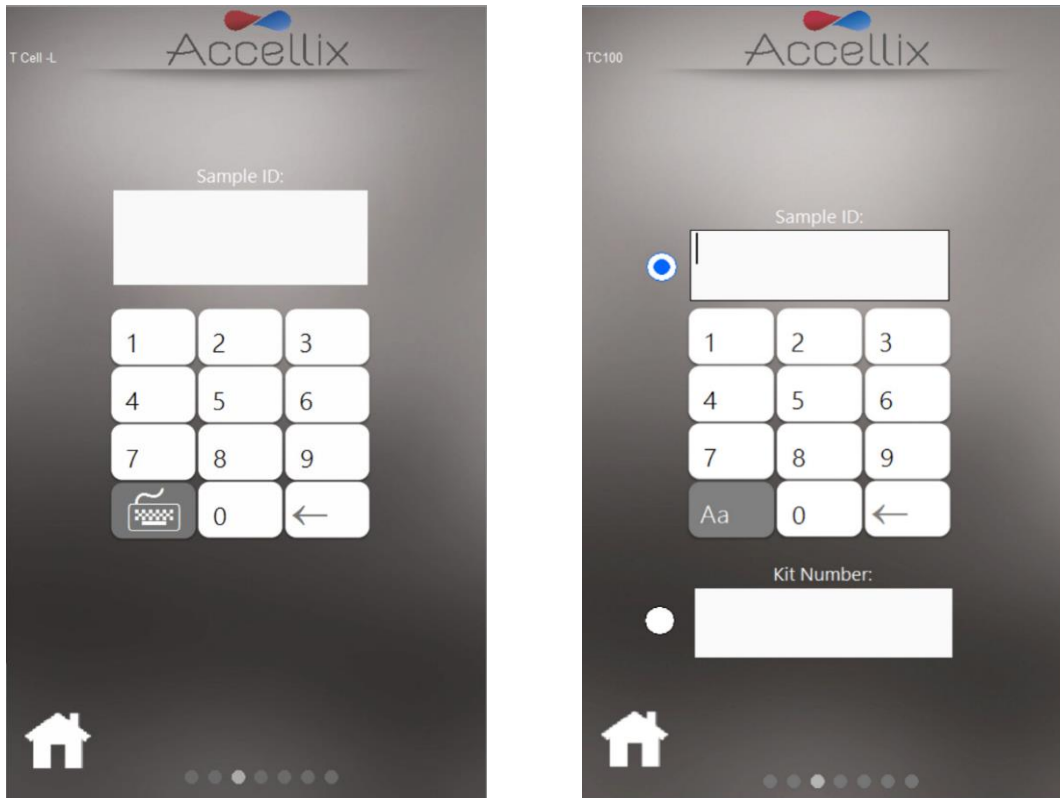

Figure 36: Enter Sample ID screen (with and without Kit Number)
6. On the **Enter Sample ID screen** (Figure 36), enter the Sample ID using the on-screen keypad by using an external keyboard or barcode scanner. The Sample ID will then be displayed on all subsequent screens of the assay run.